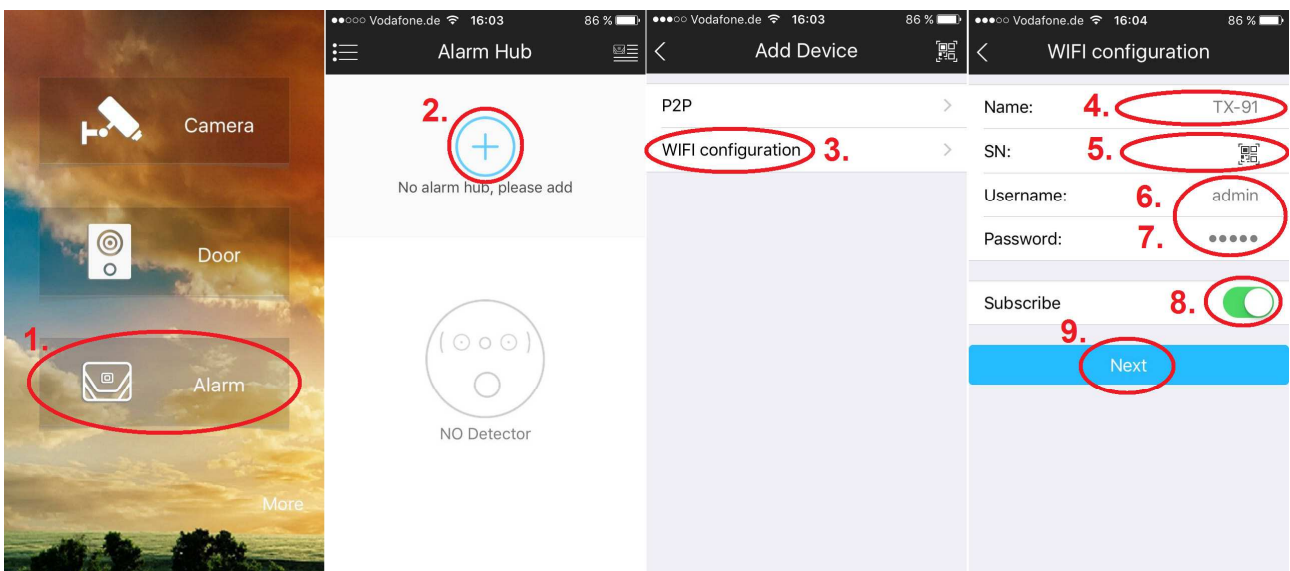

Figure 5-2
Step 2. See figure 5-2. Open APP, click "Alarm" (1). Press + (2) to add new Alarm hub and choose WiFi configuration (3).